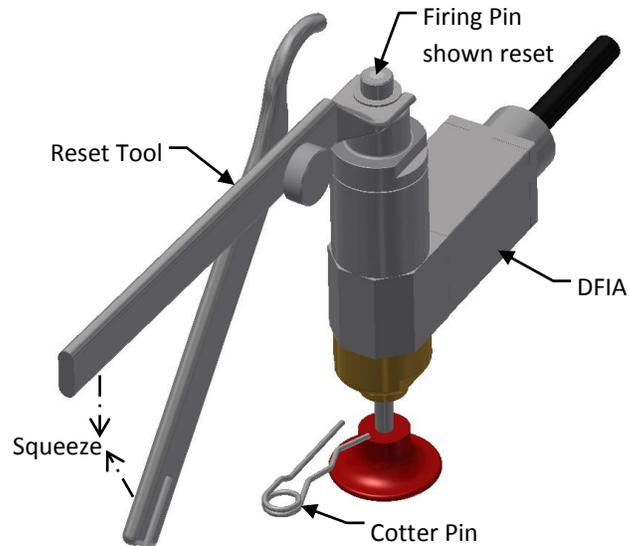

Figure 6 DFIA Reset
6. Squeeze reset tool handles together until the firing pin resets (clicks into place) as shown in Figure 6. The face of the firing pin should be flush or slightly recessed with the DFIA operator tip once reset.